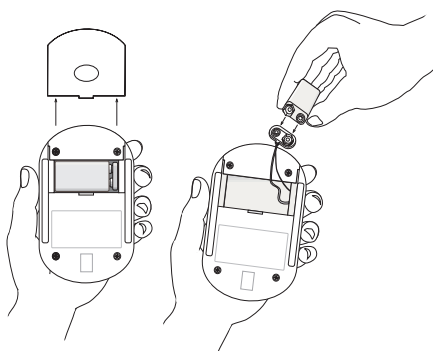

Figure 4
- (Figure 4).
3. Lift the battery snap gently as you attach the battery to the snap. **Do not pull on the wires (Figure 4).**